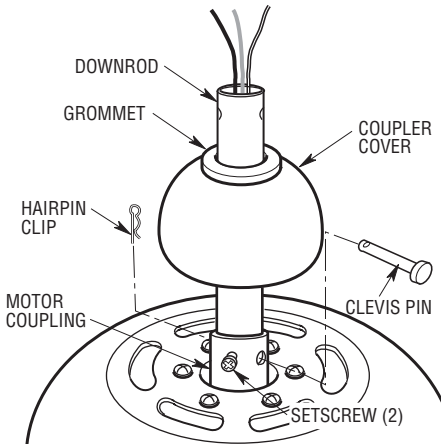

Figure 6
- ☐ 5. Make sure the grommet is properly installed in the coupling cover then slide the coupler cover on the downrod until it rests on the motor housing (Figure 6).